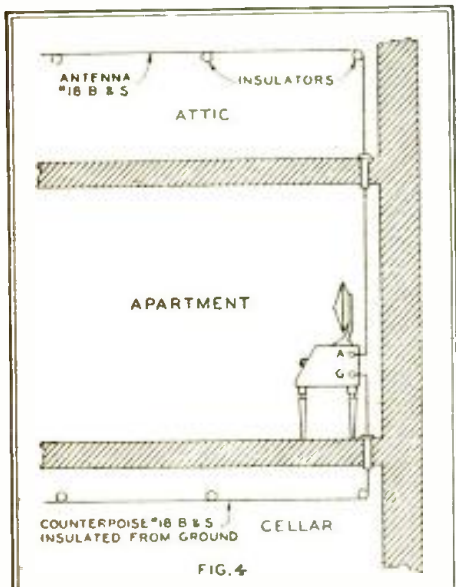

FIG. 4
*Another form of the counterpoise, this time with an outdoor aerial. For those who have an ample yard or acreage, this will be found even more efficient than Fig. 4.*